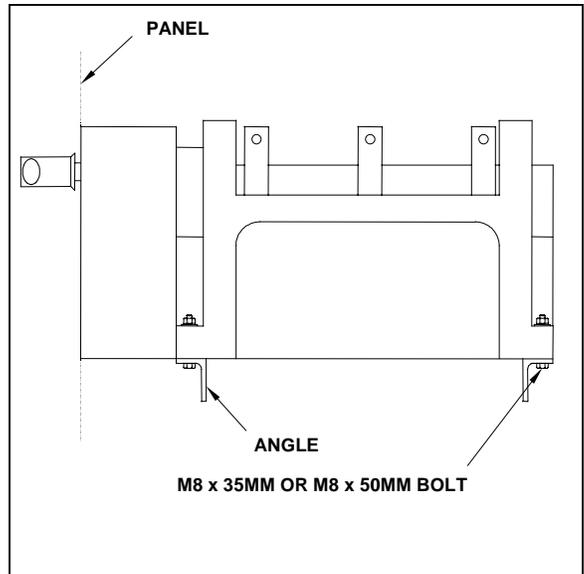

Fig. 13 Mounting Breaker to Flat Plate or Angles
1. Fasten the breaker onto steel angles or to a flat plate (Fig. 13). Use M8 hex head bolts (either 50 mm or 35 mm). The tightening torque should be 120-150 kgf-cm (9-11 ft-lb).